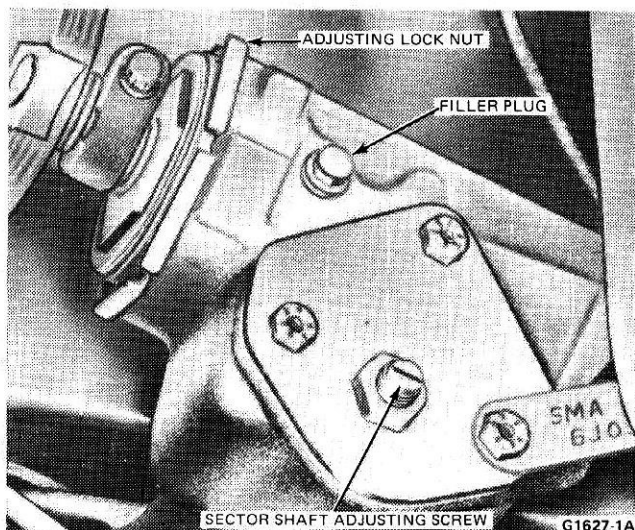

FIG. 2 Steering Gear Adjustments—Typical
2. Loosen the nut that locks the sector adjusting screw (Fig. 2), and turn the screw counterclockwise.